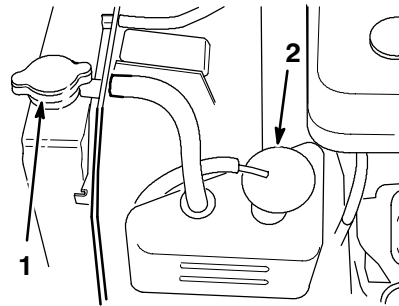

Figure 33
- Remove the radiator cap and reserve tank cap (Fig. 33).